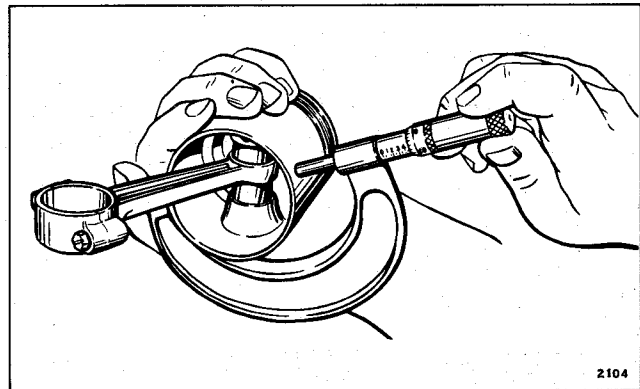

Figure 5-27. Checking Piston for Roundness
e. Check piston with micrometer to determine whether piston has been distorted during assembly. See Figure 5-27. If slightly out-of-round, place in fixture and tap high side with light mallet (DO NOT use hammer) to restore original roundness. Proceed carefully and caliper frequently until the piston is rounded out.